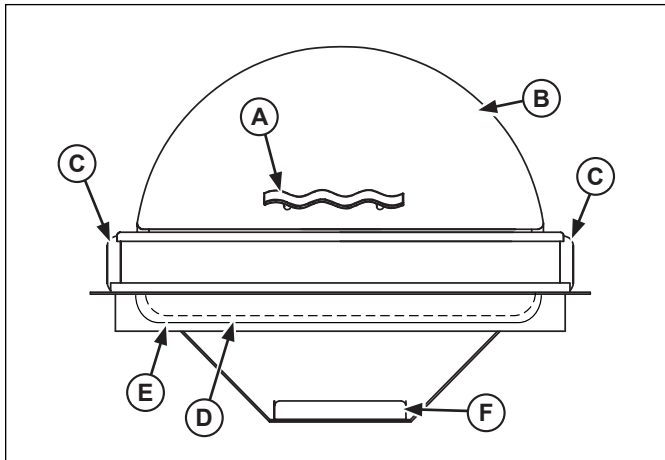

Figure 7. Drop-In Chafer Features and Controls.
- (A)** COVER HANDLE. Used to open and close the cover.
- (B)** COVER. Covers the food/beverage product.
- (C)** HINGE. Allows the cover to rotate.
- (D)** FOOD PAN. Holds the food product.
- (E)** WATER PAN. Holds the water.
- (F)** HEATER/FUEL TRAY. Holds the electric chafer heater.
1. Remove the food pan (D) from the water pan (E). See Figures 7.
2. Pour about 2 quarts (2 L) of clean fresh water into the water pan (E).